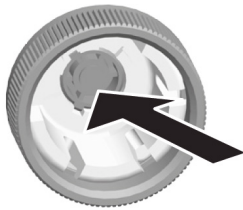

Figure 6: Spindle retracted
4. Check that the actuator spindle is in the retracted position (see Figure 6, further details on page 10)